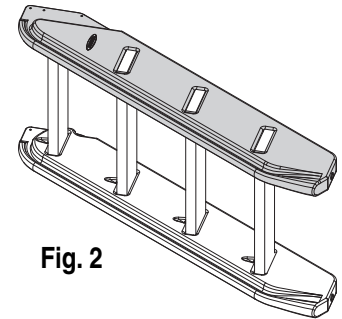

Fig. 2
3. Insert the right (R) step side rail on top of the existing boards until the standard boards are flush with the outside of the side rail. **(Fig. 2)**
6. Use the anchor as a drill guide and drill a ⅝" hole completely through the Climbing Wall. Attach Climbing Wall to anchor with one ⅝" x 1¼" hex bolt, two ⅝" washers and one ⅝" lock nut provided in the anchor kit. (Fig. 2)
4. Secure both ends with staples provided (2 each end). (Fig. 2)